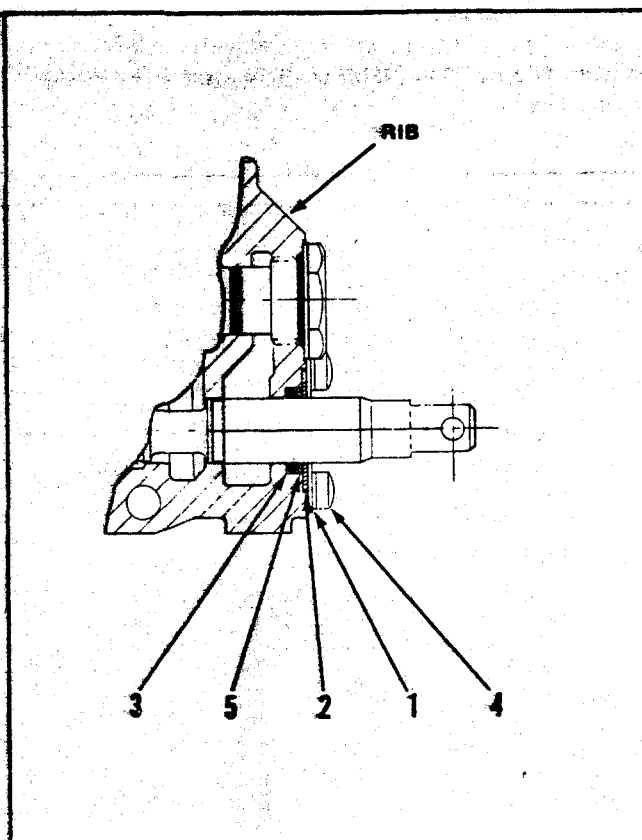

Figure 3-2. Spool Seal Assembly After February 1, 1973.
Figure 3-2 shows spool assembly—less the complete handle assembly. When handle bracket is furnished, retainer plates and screws (items 1 and 4, Figure 3-2) are omitted. Seal assembly is retained by the handle bracket which will also retain the optional wiper seal.
3. Remove retainer plate (Item 1, Figure 3-2), retainer plate washer (Item 2), back-up washer (Item 5), and spool seal (Item 3).